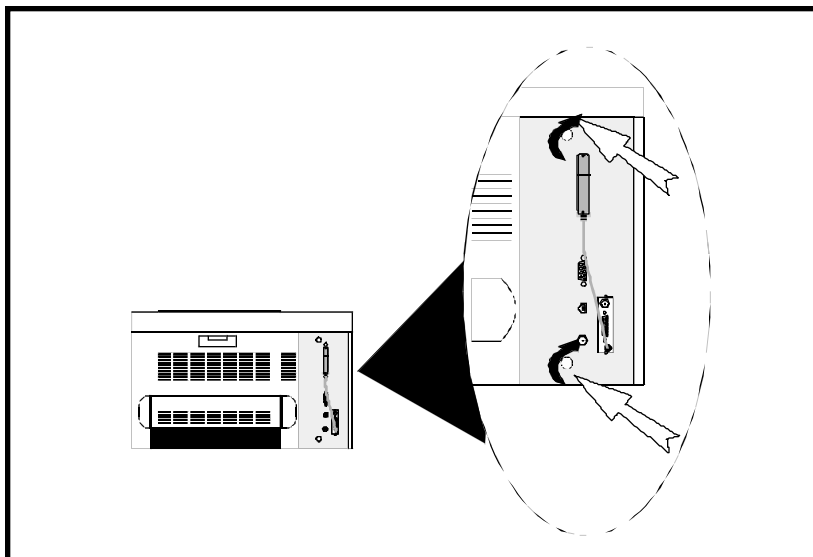

figure 2.3
- ▲ Connect the 3270 X/LT parallel interface to the standard Centronics parallel connection on the printer. Lock into place with wire latches (Fig. 2.3).